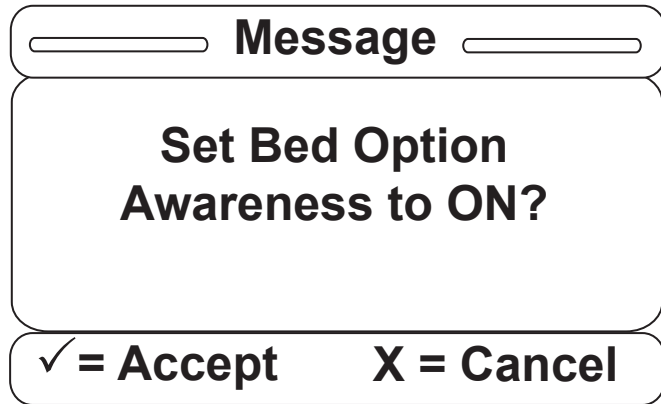

Figure S-16
16. Once you have selected one of the items, a confirmation screen such as that in Figure S-16 will be displayed. The confirmation screen text will vary based on the item you have selected. The confirmation screen in Figure S-16 indicates that the user chose the Awareness option to be ON. Hit "Enter" on the footboard panel to confirm your Awareness option; hit "Exit" to cancel the operation.